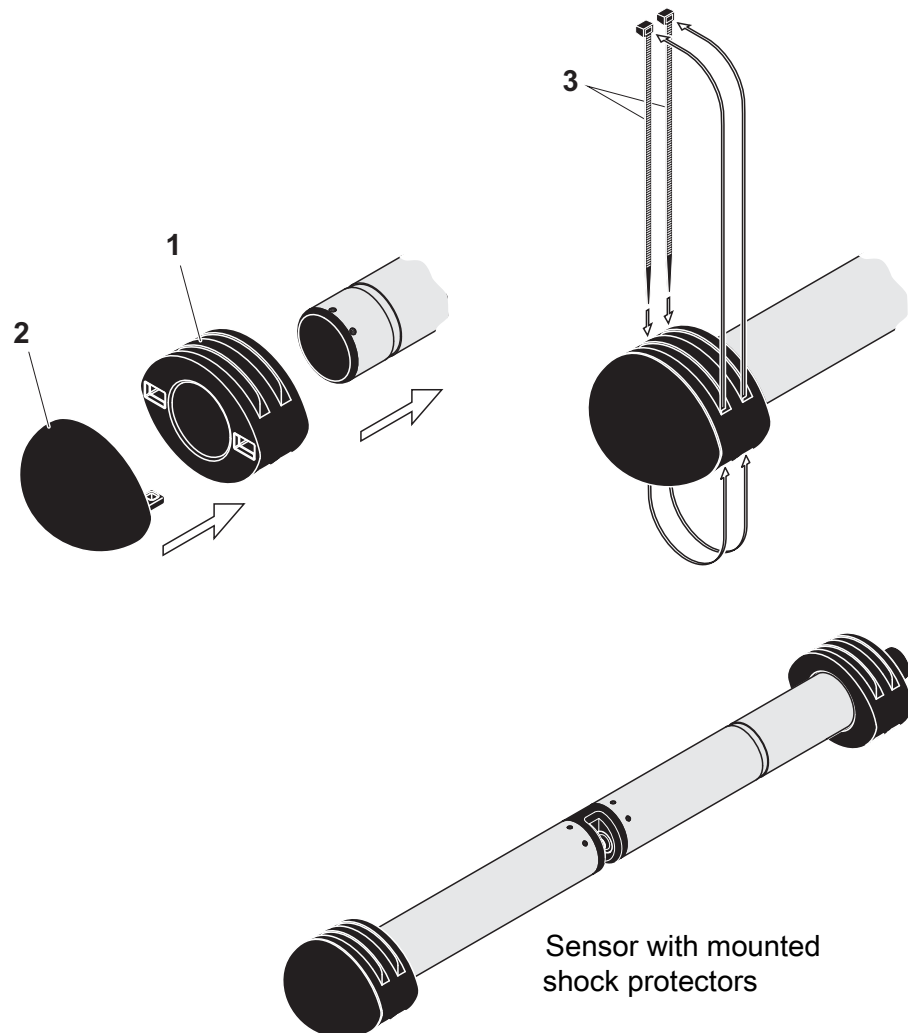

figure 3-4 Mounting the shock protectors
1. Plug the cap (pos. 2 in figure 3-4) on one of the two rings (pos. 1).
2. Put the assembled unit on the sensor end and fix it with 2 cable ties (pos. 3) as shown in figure 3-4.